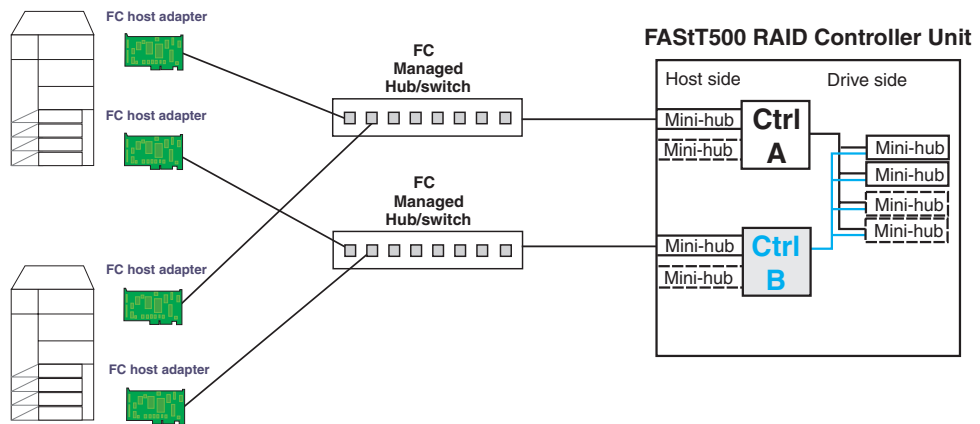

Figure 125. Passive controller B
1. One controller is passive. In the example shown in Figure 125, controller B is passive.